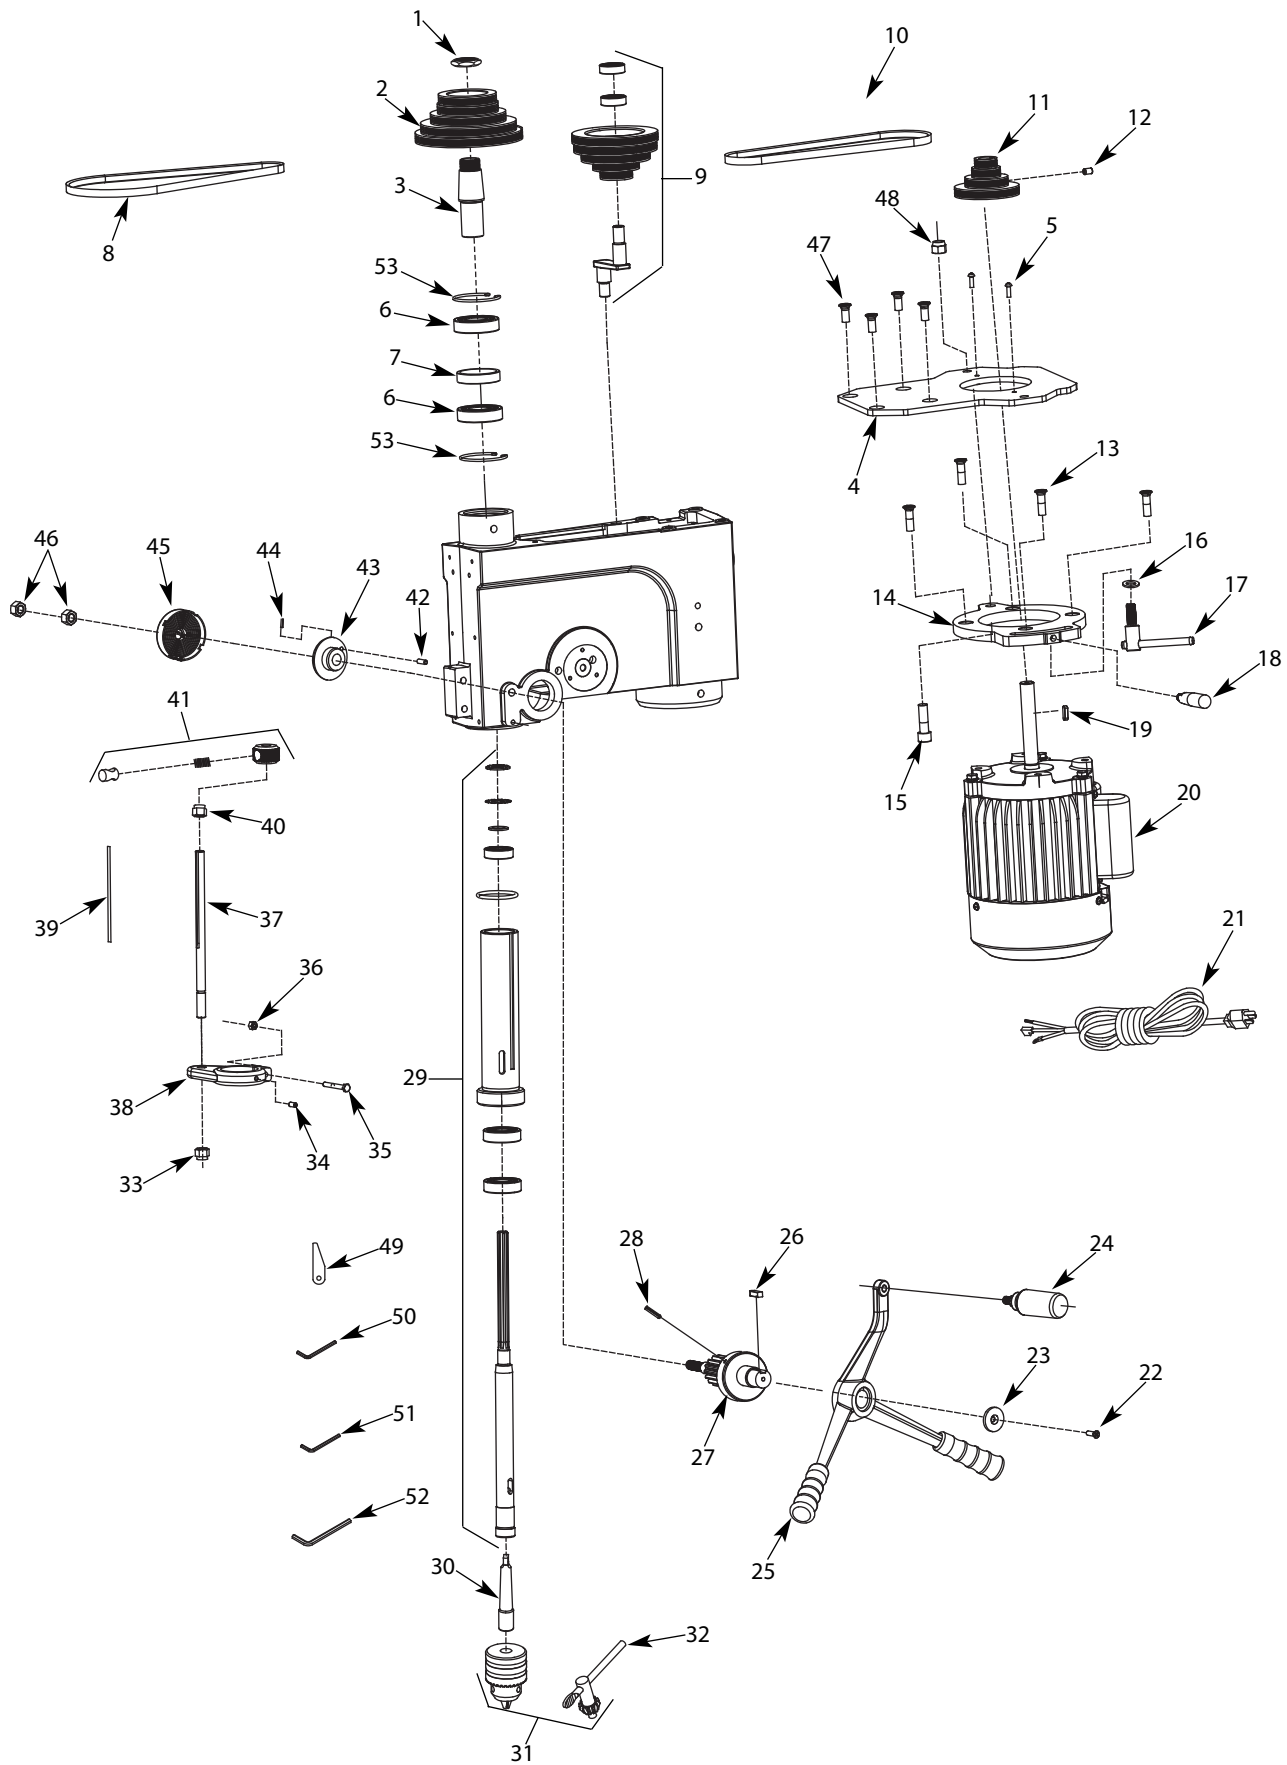

Figure 8 - Replacement Parts Illustration for Spindle and Drive
Refer to Figure 8.
- Lower quill assembly (Figure 8, Ref. No. 29) all the way down.
- Apply lubricant around the inside of the hole in the spindle pulley (Figure 8, Ref. No. 2).
- Apply lubricant to rack (teeth) on quill (Figure 8, Ref. No. 29) while extended below drill press head.